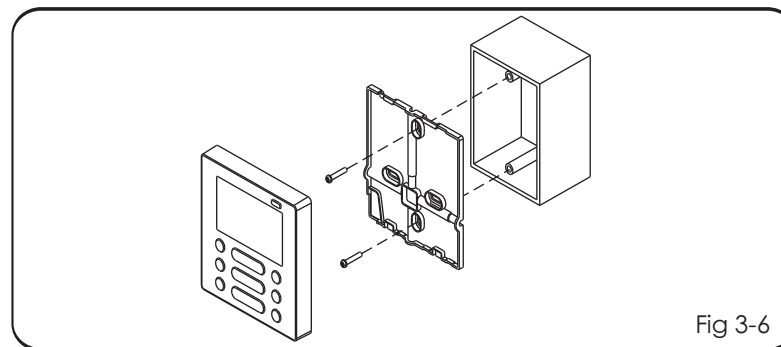

Fig 3-6
5. Fix the bottom cover to the electric cabinet with the slotted head screws. Align the bottom cover so it is level on the wall surface, then reinstall the bottom cover of the wall control. (See fig 3-6)